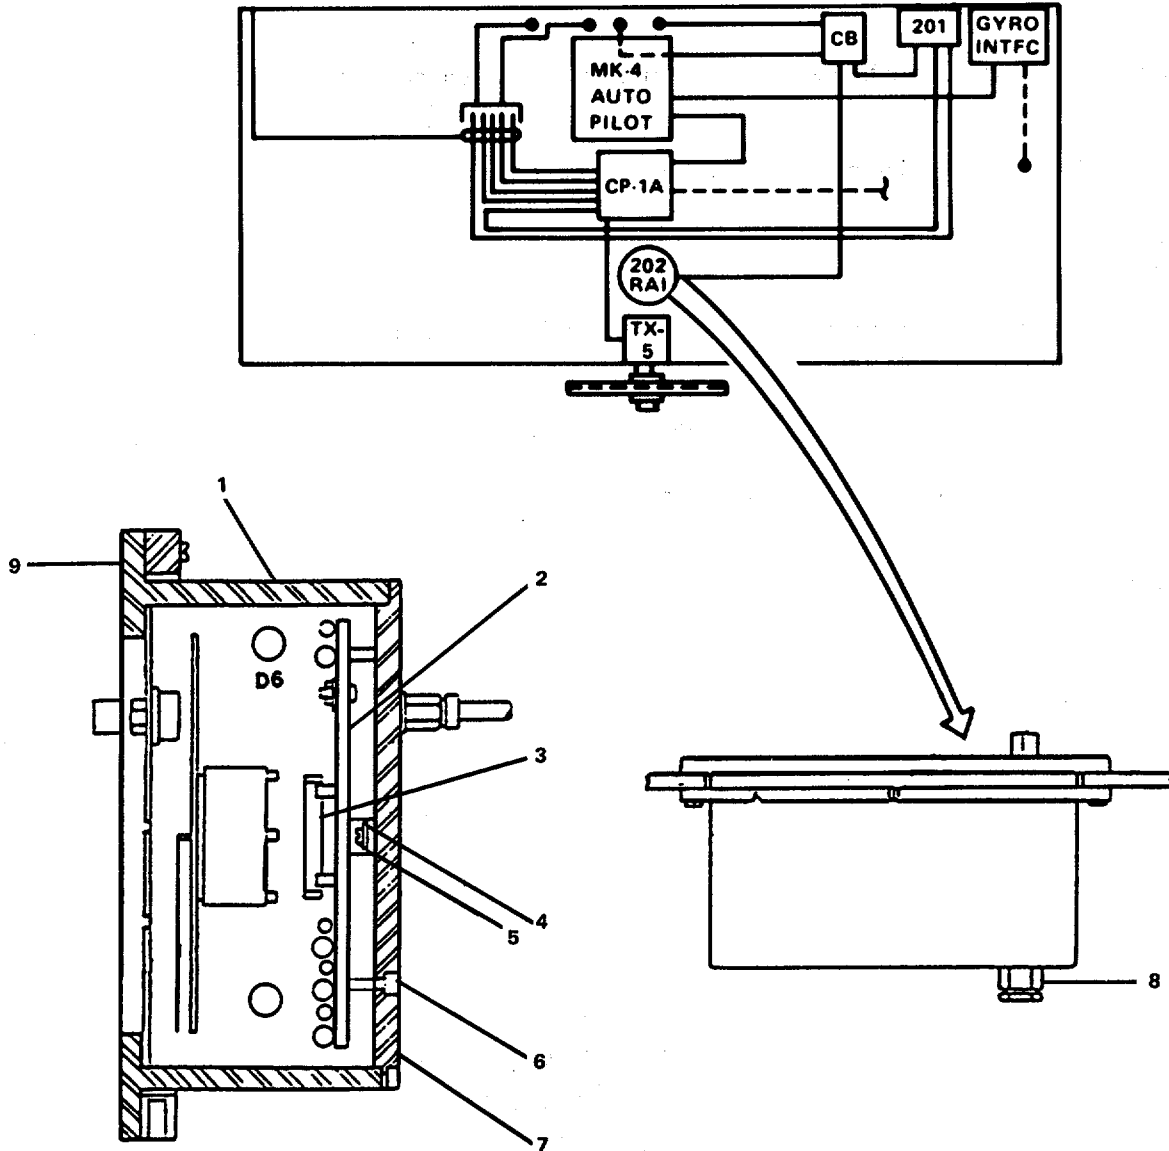

FIGURE 3-106. Repair Rudder Indicator.
- c. Tag and disconnect cable at fitting (8, Figure 3-106).
- d. Remove four round head screws (9).
- e. Remove rudder indicator (1).